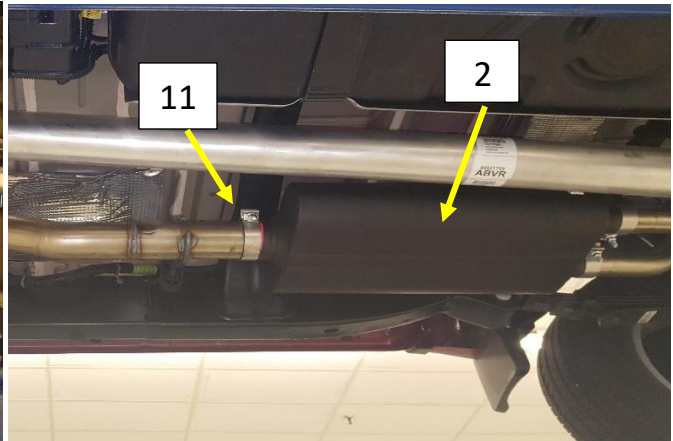

Figure 3
6. Install a supplied 3.5" band clamp **(11)** on to the muffler inlet. Bolt at the top of the muffler and the nut facing the drive shaft. **Fig.3**
7. Install the muffler **(2)** on to the muffler inlet pipe and level with the ground. Tighten the clamp to allow for adjustment. Support the muffler with a jack stand. **Fig.3**